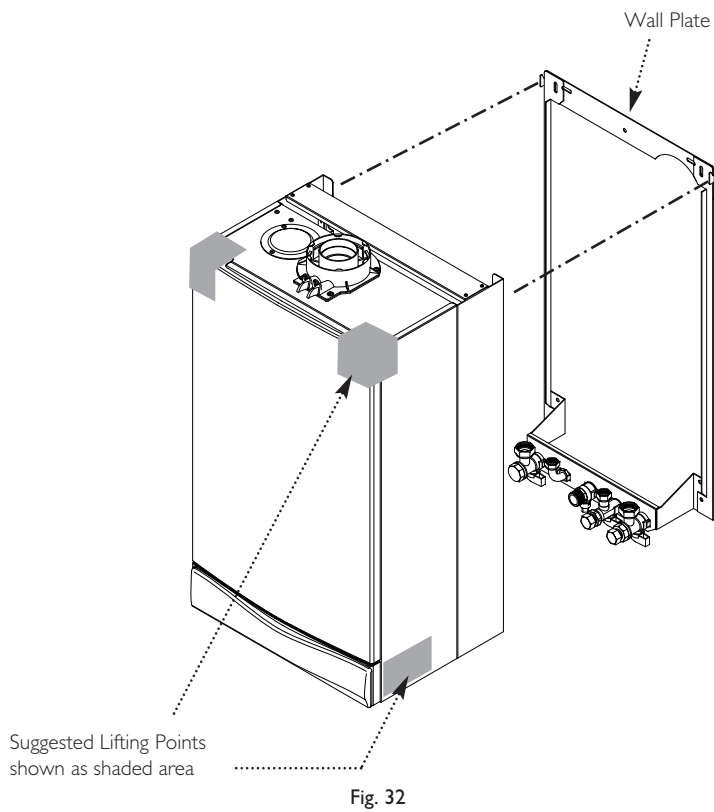

Fig. 32
2. Lift the boiler using the lower edges. The boiler should be lifted by TWO PEOPLE. Engage the slots at the top rear of the boiler on the wall plate (Fig. 32). See 'Safe Manual Handling' on page 5.